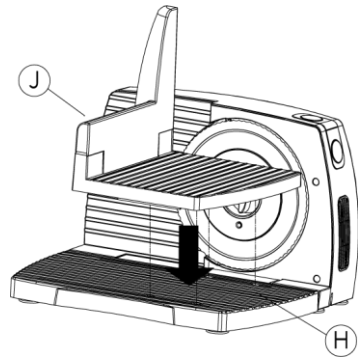

fig.2
3. Align the black arrow on the feed tray with the arrow on the base (fig.2) and slot the base into the base. When correctly fitted the feed tray will sit flush with the base.